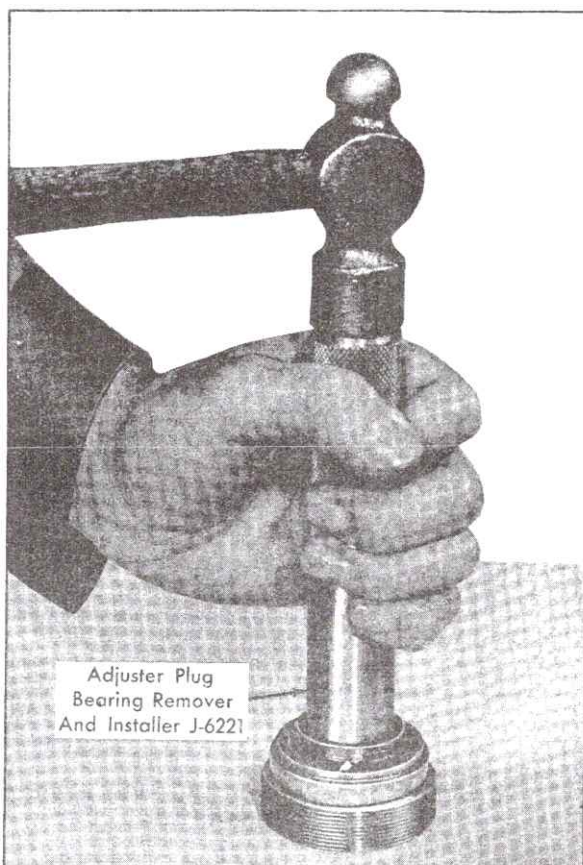

Fig. 9-29 Removing and Installing Adjuster Plug Needle Bearing
1. Inspect needle bearing in adjuster plug. If rollers are broken or pitted, remove needle bearing by pressing out from thrust bearing end, using Adjuster Plug Bearing Remover and Installer, J-6221, Fig. 9-29.
1. If adjuster plug needle bearing was previously removed, install new needle bearing on Tool J-6221, with letters on bearing against tool. Position bearing and tool over thrust bearing end of plug and drive bearing into plug, Fig. 9-29. End of bearing must be flush with bottom surface of stub shaft seal bore.